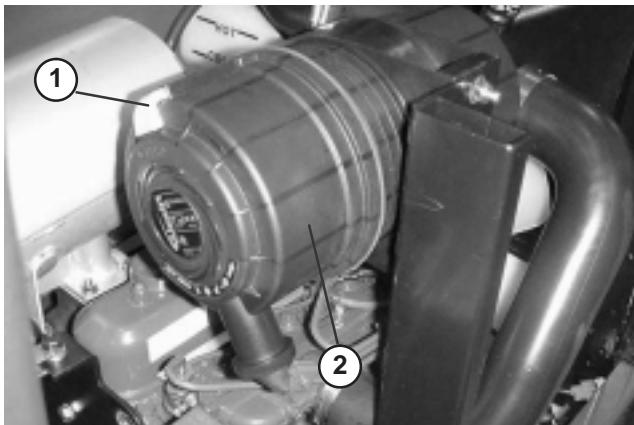

Figure 36
1. Pull latch outward and rotate air cleaner cover counter-clockwise. Remove cover from body (Fig. 36). Clean inside of air cleaner cover.